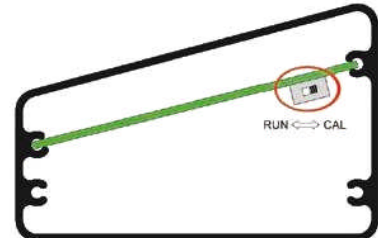

Figure 5: Calibration Switch
Ensure scale is level before proceeding. To access all settings below, break the Calibration Seal and open the right hand end cap. Seal must be replaced by a certified technician. Push the calibration switch right to the “CAL” position (Figure 5) using the eraser end of a pencil or similar item. Display arrow on the top right will light up. Carefully remove keypad from inside the display housing. After setup is complete, carefully replace keypad inside display housing.
**STEP 4:** (Figure 5) Select another menu item, or push the calibration switch left to the “RUN” position to exit CALIBRATION mode.